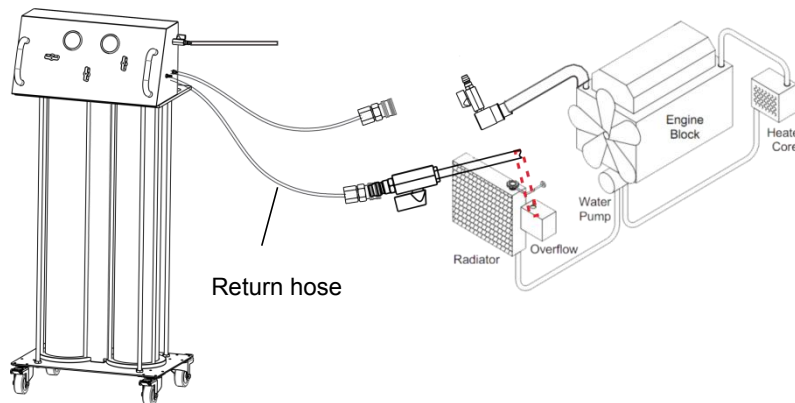

Fig.6
4. Connect wand to the return hose , insert the wand to overflow tank (Fig.6);